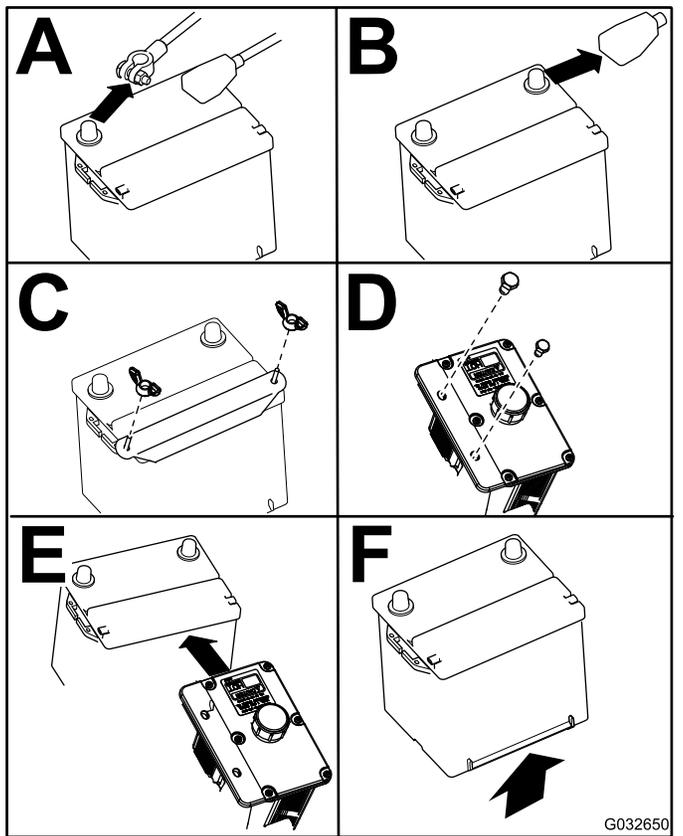

Figure 55
4. Remove the battery as shown in Figure 55.